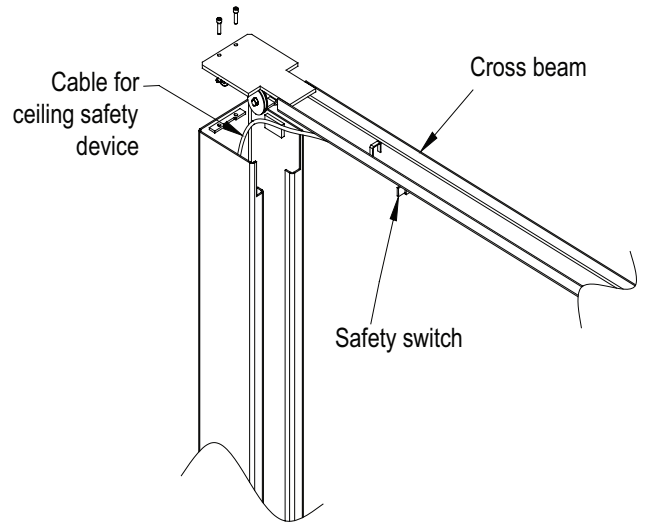

Fig. 3
6. Place a flat washer and hex nut over threaded end of anchor, leaving approximately 1/4 inch of thread exposed above the nut (fig. 3). Carefully tap anchor into the concrete until nut and flat washer are against base plate. Be sure to only tap the top of the anchor and not the nut. This could cause damage to the threads of the anchor.
- 8) Install the overhead cross beam on the column tops. (Fig. 3)